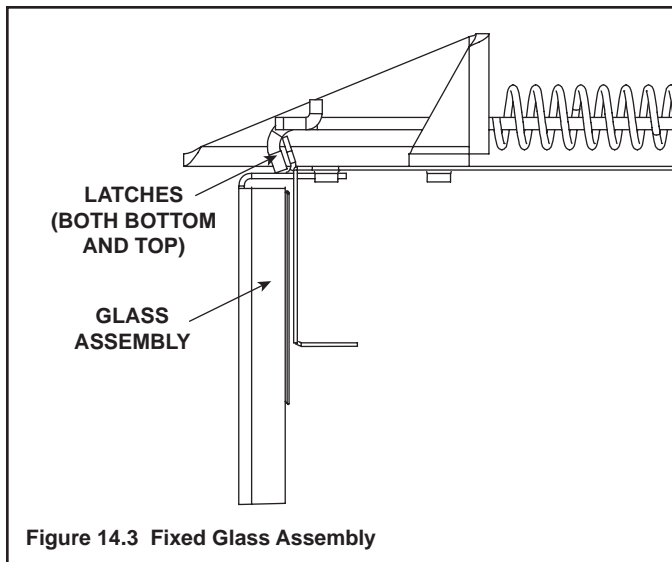

Figure 14.3 Fixed Glass Assembly
- When placing Glowing Embers® onto the burner care should be taken so that the ports are not covered. Place the dime-size ember pieces near the port holes in the burner top (see Figure 14.3). Failure to follow this procedure will likely cause lighting and sooting problems.
- Pull the four glass assembly latches out of the groove on the glass frame. Remove glass door from the appliance (see Figure 14.3).